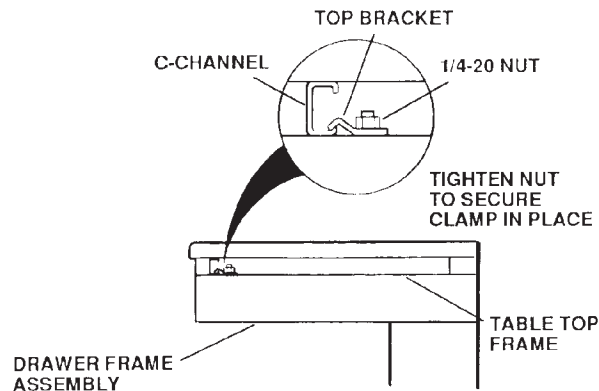

Figure 3
5. If suspended frame does not hang square to table frame as shown in Figure 3, the nuts on the carriage bolts in the rear clips must be tightened.